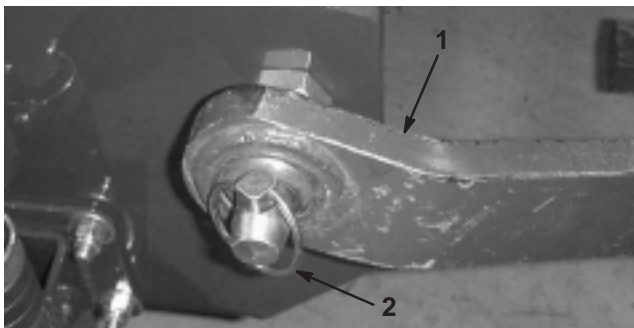

Figure 4
5. Insert the right and left lower link arms onto the hitch pins (Fig. 4).
6. Secure the lower link arms to the hitch pins with the lynch pins (Fig. 4).